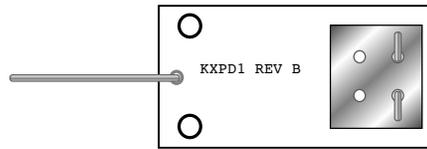

Figure 4
- Attach one wire to each PC board at the pad shown in Figure 4. Solder on the opposite side.